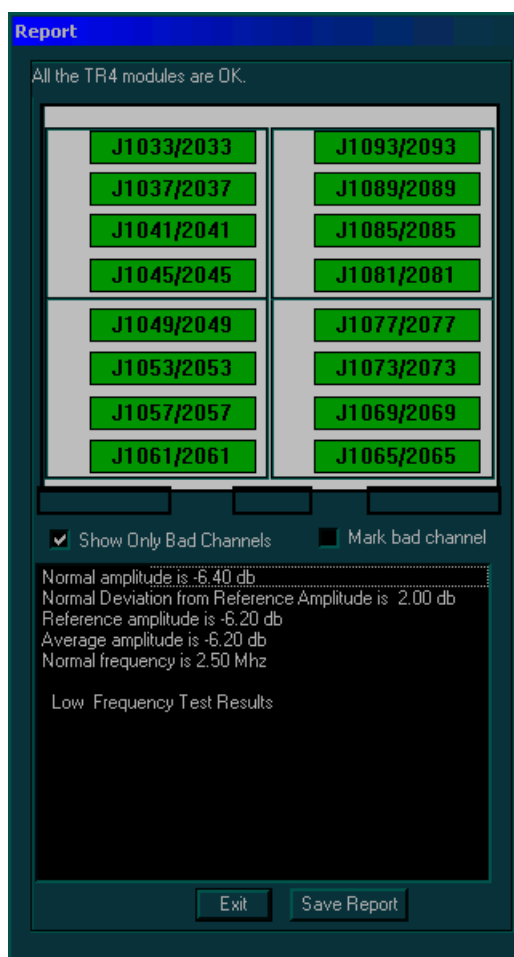

Figure 7-30 Report Dialog Box - Normal Channels Test Low Frequency
- 5) Trackball to the **Low Freq Test** button and press **Select**. The normal channels diagnostic test is performed in low frequency mode, and the test results are displayed in the *Report* dialog box, as shown in Figure 7-30 "Report Dialog Box - Normal Channels Test Low Frequency" on page 7-55: